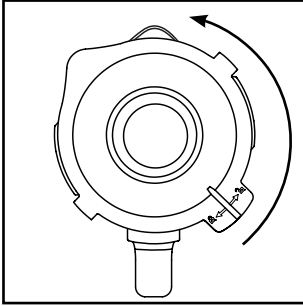

Fig. 1
- 1) Rotate the blender ③ anticlockwise until the arrow ▼ under the blender handle is located above the  position. Remove the blender ③ from the motor block ⑥ in a vertical, upward motion.
- 2) Remove the lid ② by rotating it anticlockwise towards position  (see Fig 1) until you can pull it upwards.
- 3) Fill the blender ③ to at least to the lowest line of the scale ⑧ and at most to the MAX mark. For optimum results, we recommend the following maximum filling quantities: